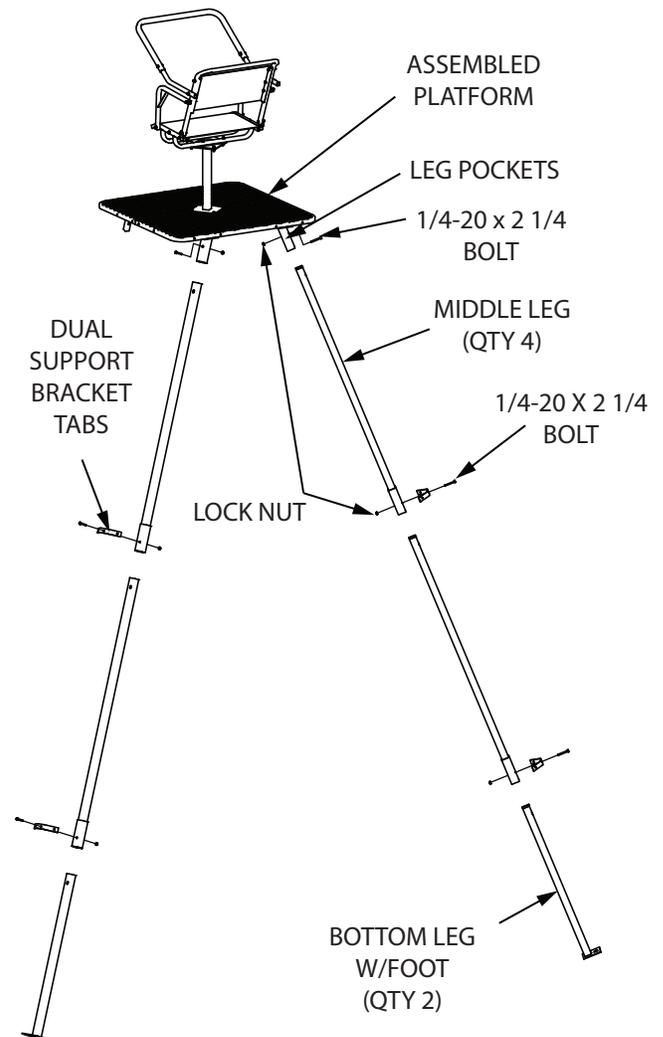

FIGURE 10
SEE FIGURE 10
18. Attach (4) dual support brace tabs (TP146) to each remaining joint locations of the leg assemblies (4 total locations) and secure those locations using (4) provided 1/4-20 x 2-1/4" bolts and locknuts. **SEE FIGURE 10**